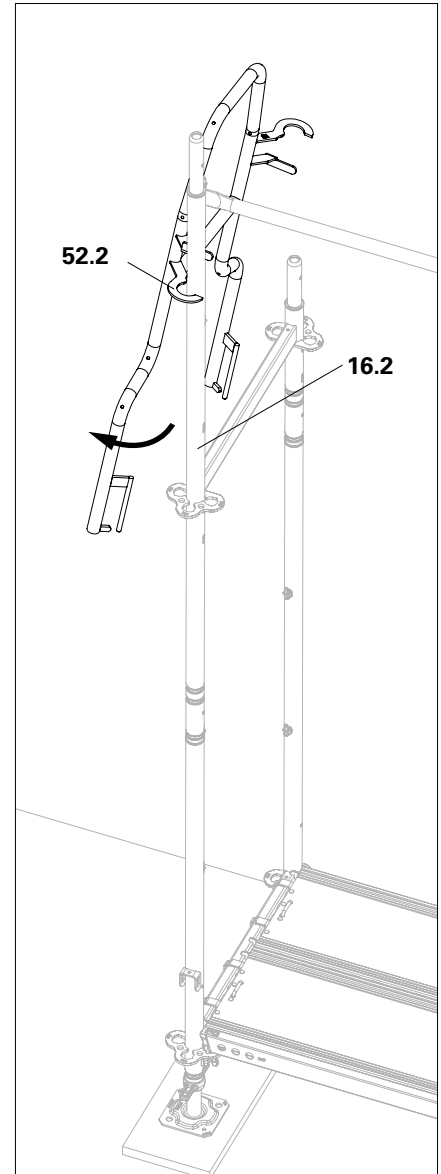

Fig. A3.14b
2. Swing the leading end guardrail to the left so that the fork (**52.2**) engages around the outer leg (**16.2**). (Fig. A3.14b)